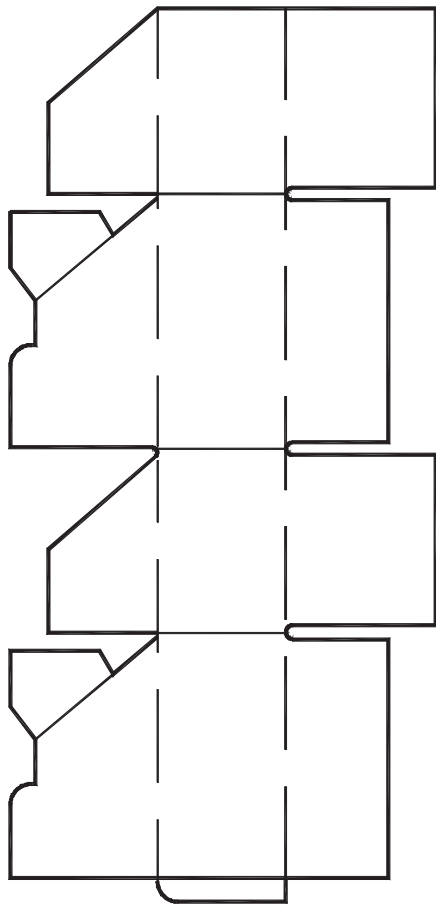

Fig. 6.12
- recommended for B-flute corrugated for production of boxes to be transferred to folder-glueers. Especially for the following boxes (fig. 6.12-fig. 6.13).
- with crash-lock bottom (A).
- with 4-6 glued corners (B).